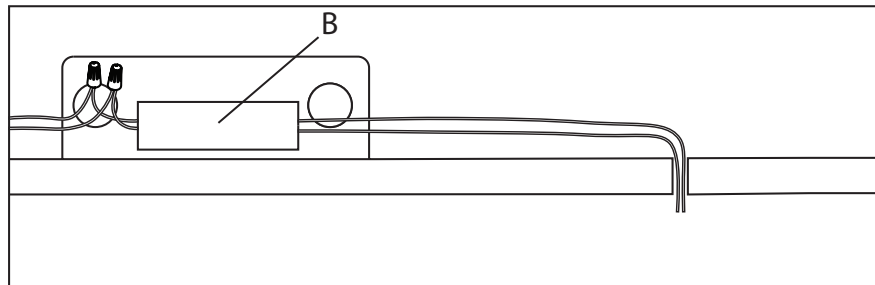

Fig. 6
6. Make appropriate electrical connections between branch circuit conductors and LED driver (B) using the provided wire nuts or equivalent:
**Note: The LED driver must be installed in a remote and accessible location near the fixture in accordance with local electrical code (Fig. 6).**